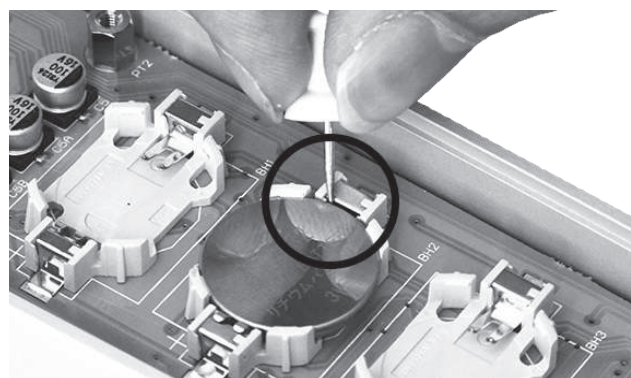

Fig. IR 2
- To remove the batteries, access the battery compartment as explained in the previous paragraph. Then, pick the appropriate tool from the packaging, as shown in FIG. IR 2, and gently insert it on one side of the battery holder. Then, apply a slight pressure, in order to allow the battery to come out. Repeat this operation for all batteries, then screw the back panel on again;
- Do not try to extract the battery with hands, this could cause serious damage to the battery holder and to the unit. Use the provided thumbtack as shown on the FIG. IR 2.